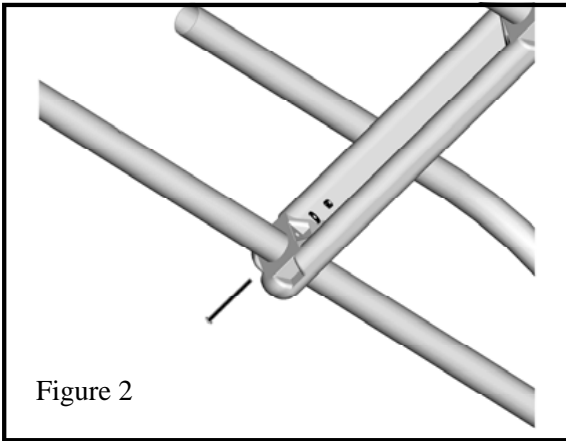

Figure 2
See figure 2
- Slide the second handrail through the hole on the opposite side of the step. Secure with a nut and bolt. See figure 2